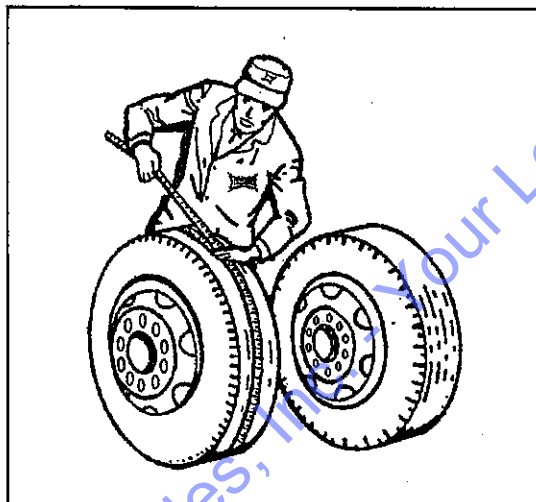

Fig. 4-17 Measuring Tape Method
a. Tape Measuring Method: Measure around each tire on the tread surface. A maximum difference of $3/4$ " is allowed between the two mating tires of a dual (See Figure 4-17).